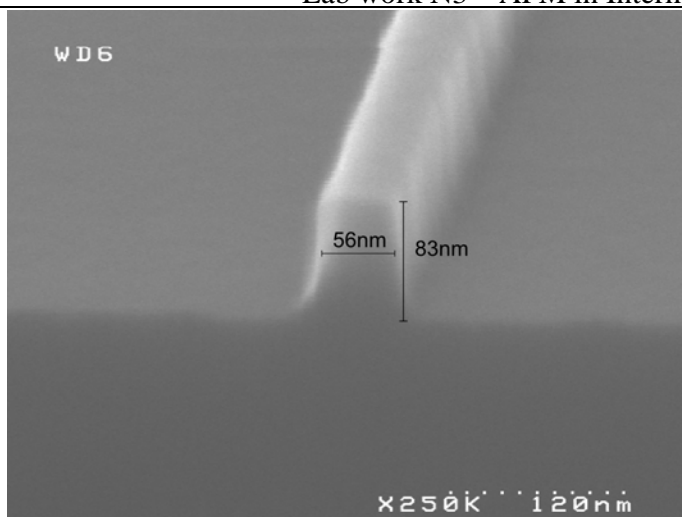

Figure 3 : The SEM image of the profile of the smallest silicon line.
- ☞ Compare the width of the line measured by AFM with the SEM image of Figure 3.